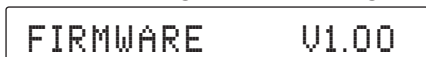

Figure 3
2. Press the SETUP Push-button repeatedly until the Front Panel Information Display indicates “Firmware V1.00” or higher. Refer to figure 3.
1. Repeatedly press the SETUP Push-button until “FIRMWARE V_._._” is indicated on the Front Panel Information Display. Refer to figure 3.